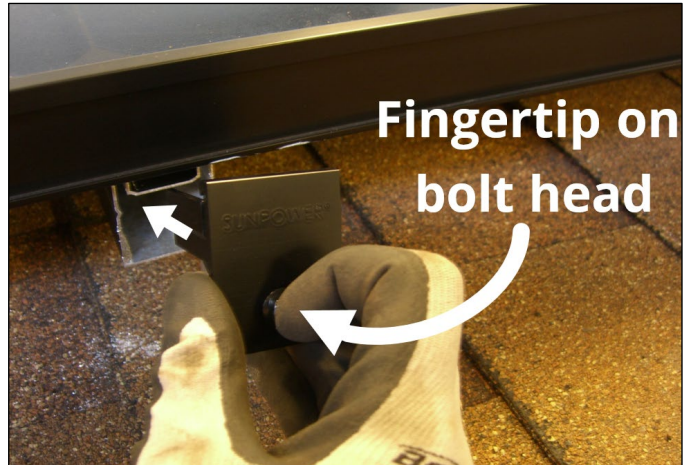

Fig. 23
2. With the SunPower logo upward, insert an end clamp into each of the rail ends by holding the clamp with your thumb and middle finger, and pressing on the bolt head with your index finger as you slide the clamp as far into the rail as possible (Fig. 23). If the clamp does not slide in easily, push on the bolt head.